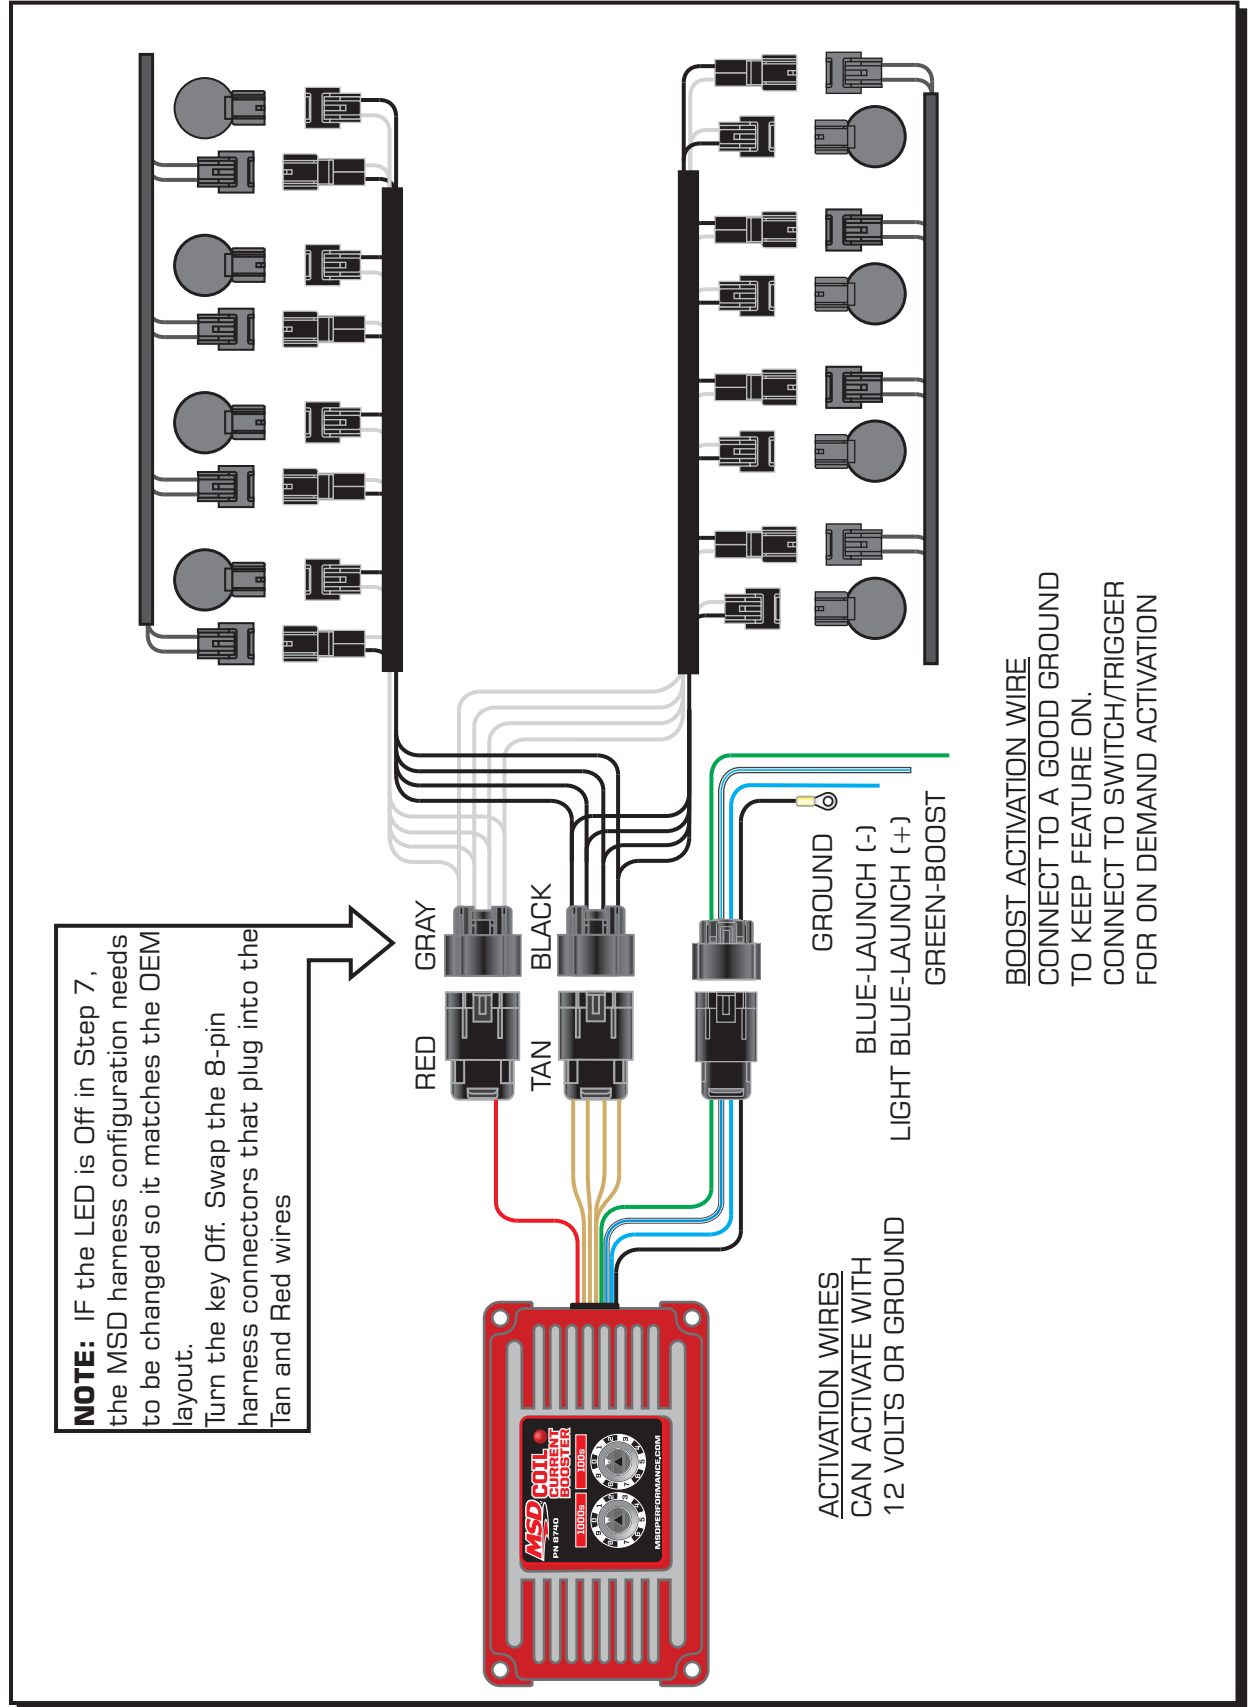

Figure 1 Coil Boost Control Wiring
- LED On - This confirms that the MSD harness configuration is correct and you can move to step 8 (Figure 1).
- LED Off - The MSD harness connection needs to be changed in order to match the OEM layout. Turn the key Off and swap both 8-pin harness connectors relative to their current positions. (See note in Figure 1).